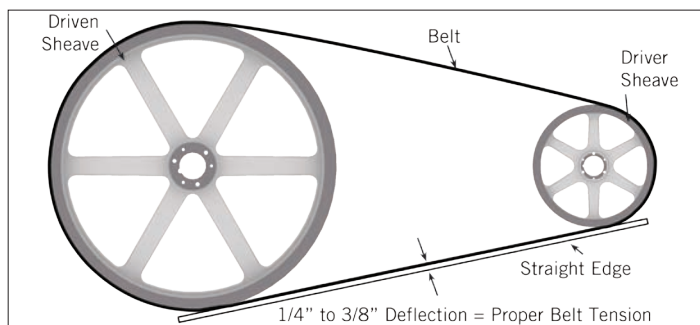
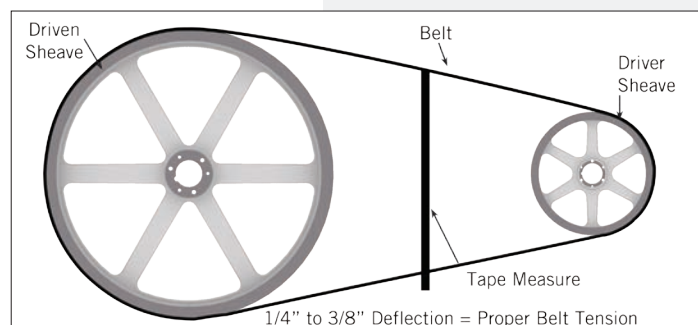

Figure 3a. Belt Tension with a Straight Edge
Figure 3b. Belt Tension with a Tape Measure
- Place a straight edge along the belt from sheave to sheave as shown in **Figure 3a**, or use a tape measure as shown in **Figure 3b** to measure belt deflection.
- There is adequate belt tension if the belt deflects between 1/4" and 3/8" as shown in **Figures 3a** and **3b**.